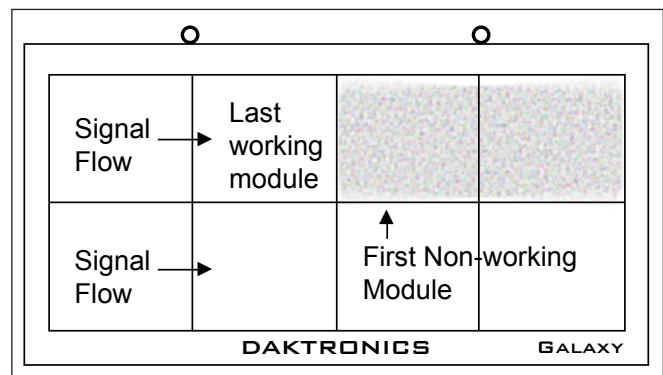

Figure 13: Modules Not Working
- Check the ribbon cable from the last working module in the row to the first non-working module, as shown in **Figure 13**.